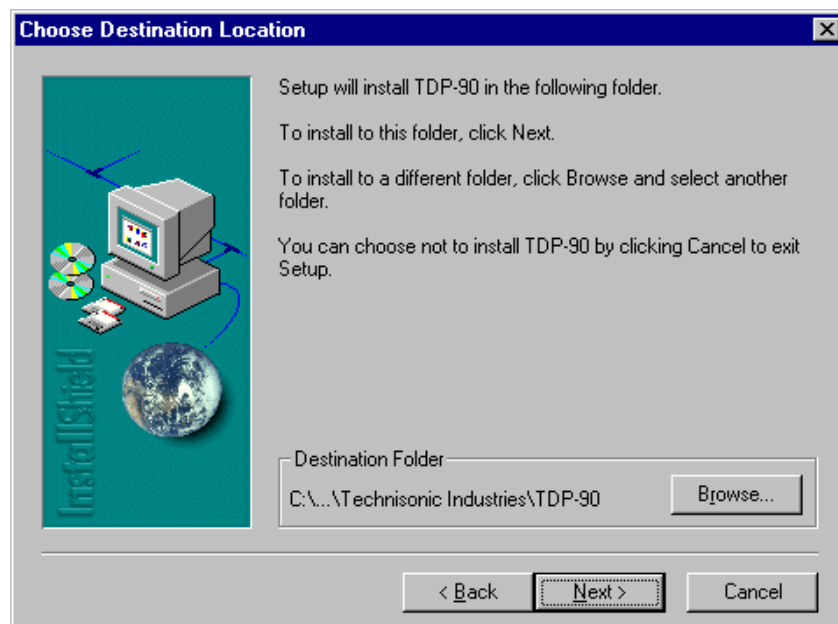

Figure 2.1.4 - Program Installation Dialog
4. After setup finishes unpacking the software, a dialog box will pop up with the option to continue (by clicking on the **Next >** button see Figure 2.1.4), exit the setup, or at this time you may choose an alternate location for the installation. If you have no objections to the default location just click on the **Next >** button to continue the installation.
2. After setup finishes unpacking the software, a dialog box will pop up with the option to continue (by clicking on the **Next >** button see Figure 2.1.4), exit the setup, or at this time you may choose an alternate location for the installation. If you have no objections to the default location just click on the **Next >** button to continue the installation.